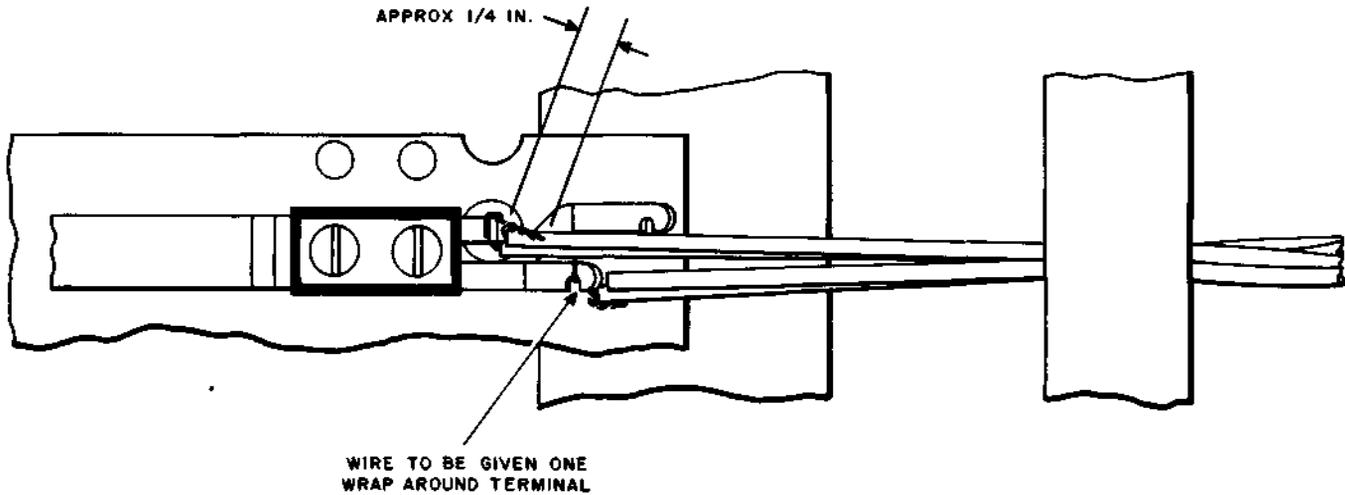

Fig. 14—Temporary Cross-Connections on Protectors
**12.01** When making transfers or rearrangements, it is often necessary to make use of temporary (back-tap) cross-connections. Fig. 14 through 19 shown the methods for terminating these cross-connections on terminals arranged for soldered connections. The word "temporary" as used herein refers in each case to the jumper which is to be removed when the permanent arrangement is completed.
**12.04** Leave a short tail of wire on the permanent jumper at the terminal. Connect the temporary jumper to this tail of wire by twisting the two wires together. Solder the twisted wires and cut off the excess, leaving approximately 1/4 inch of the wires. Then bend the wires back along the jumper wire to avoid snagging. (See Fig. 14.)